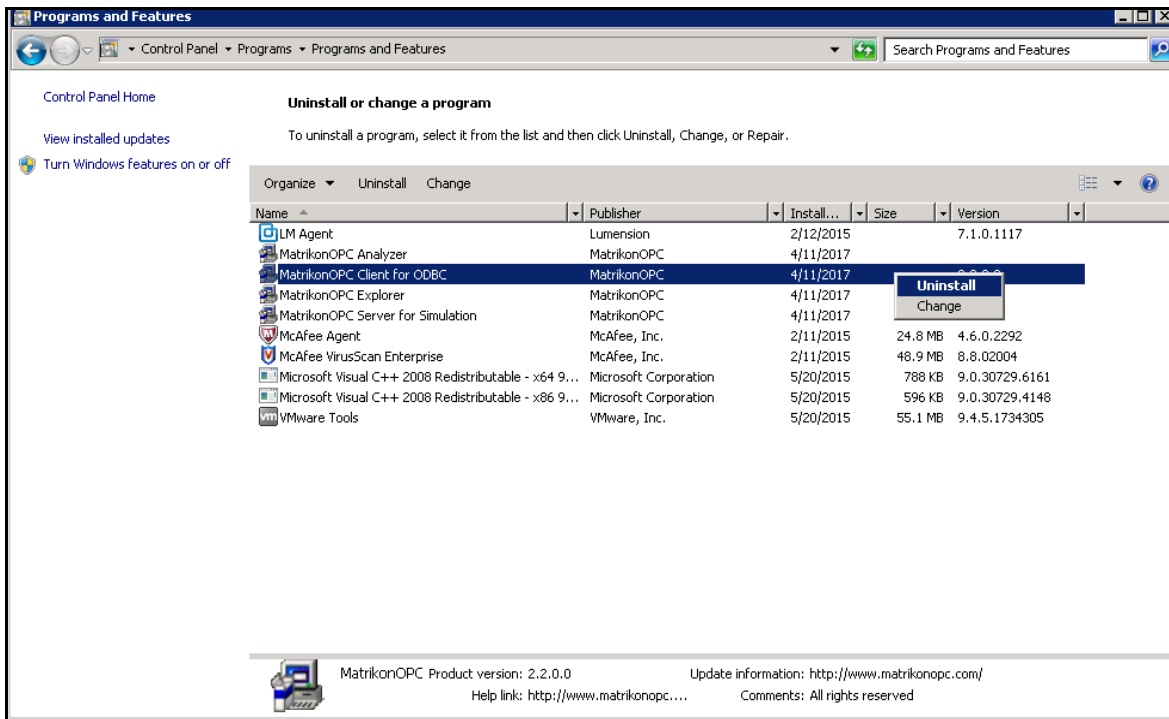

Figure 42 – Programs and Features
3. Scroll through the list of currently installed programs and updates to find and select **MatrikonOPC Client for ODBC** (Figure 42).